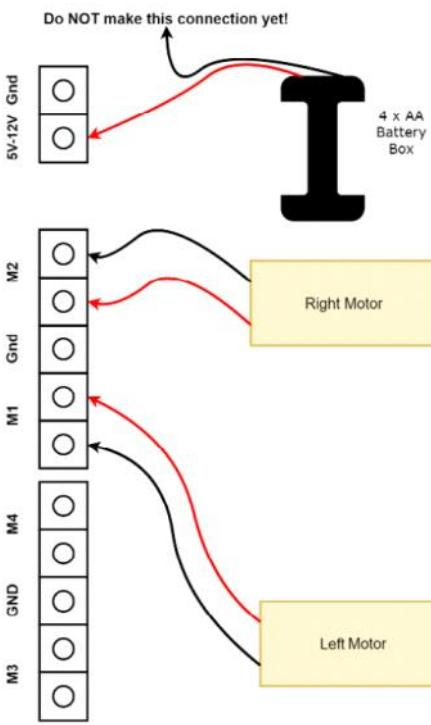

Figure 6.36 – How to wire up the motors and batteries
*Figure 6.36* shows how we wire this up. Don't wire in the ground (black) wire on the batteries until we are ready to power it up. I suggest using a little insulation tape to tape the tip of it down to a plastic part of the chassis, so it does not catch on anything. Leaving ground unwired lets us use it as a kind of makeshift switch: